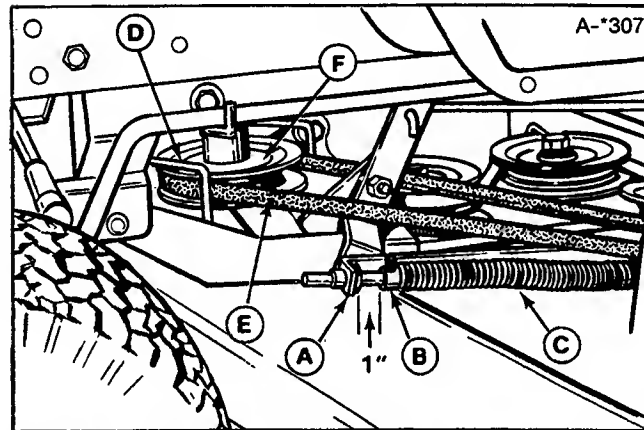
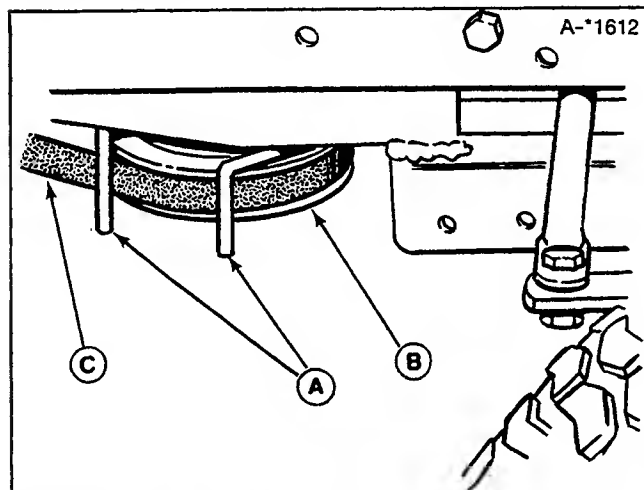

Figure 32. Mower Drive Belt Tension Adjustment
Figure 33. Right-Hand PTO Pulley Belt Stop
2. Measure the distance between the PTO rod guide (A, figure 32) and the set collar (B). The distance should measure one inch. If not, proceed to step 3.
4. Loosen the setscrew in the set collar (B). Move the rod forward to increase gap, or backward to decrease gap. Retighten the setscrew.
There are two belt stops at the PTO pulley; one on the left (D, figure 32) and one on the right (A, figure 33). With the PTO lever engaged, measure the distance between the belt stop and belt. There should be 1/16 inch (1.5 mm) clearance between each belt stop and the belt. To adjust a belt stop, loosen its mounting capscrew, move the belt stop, and retighten the capscrew. Recheck the measurement.